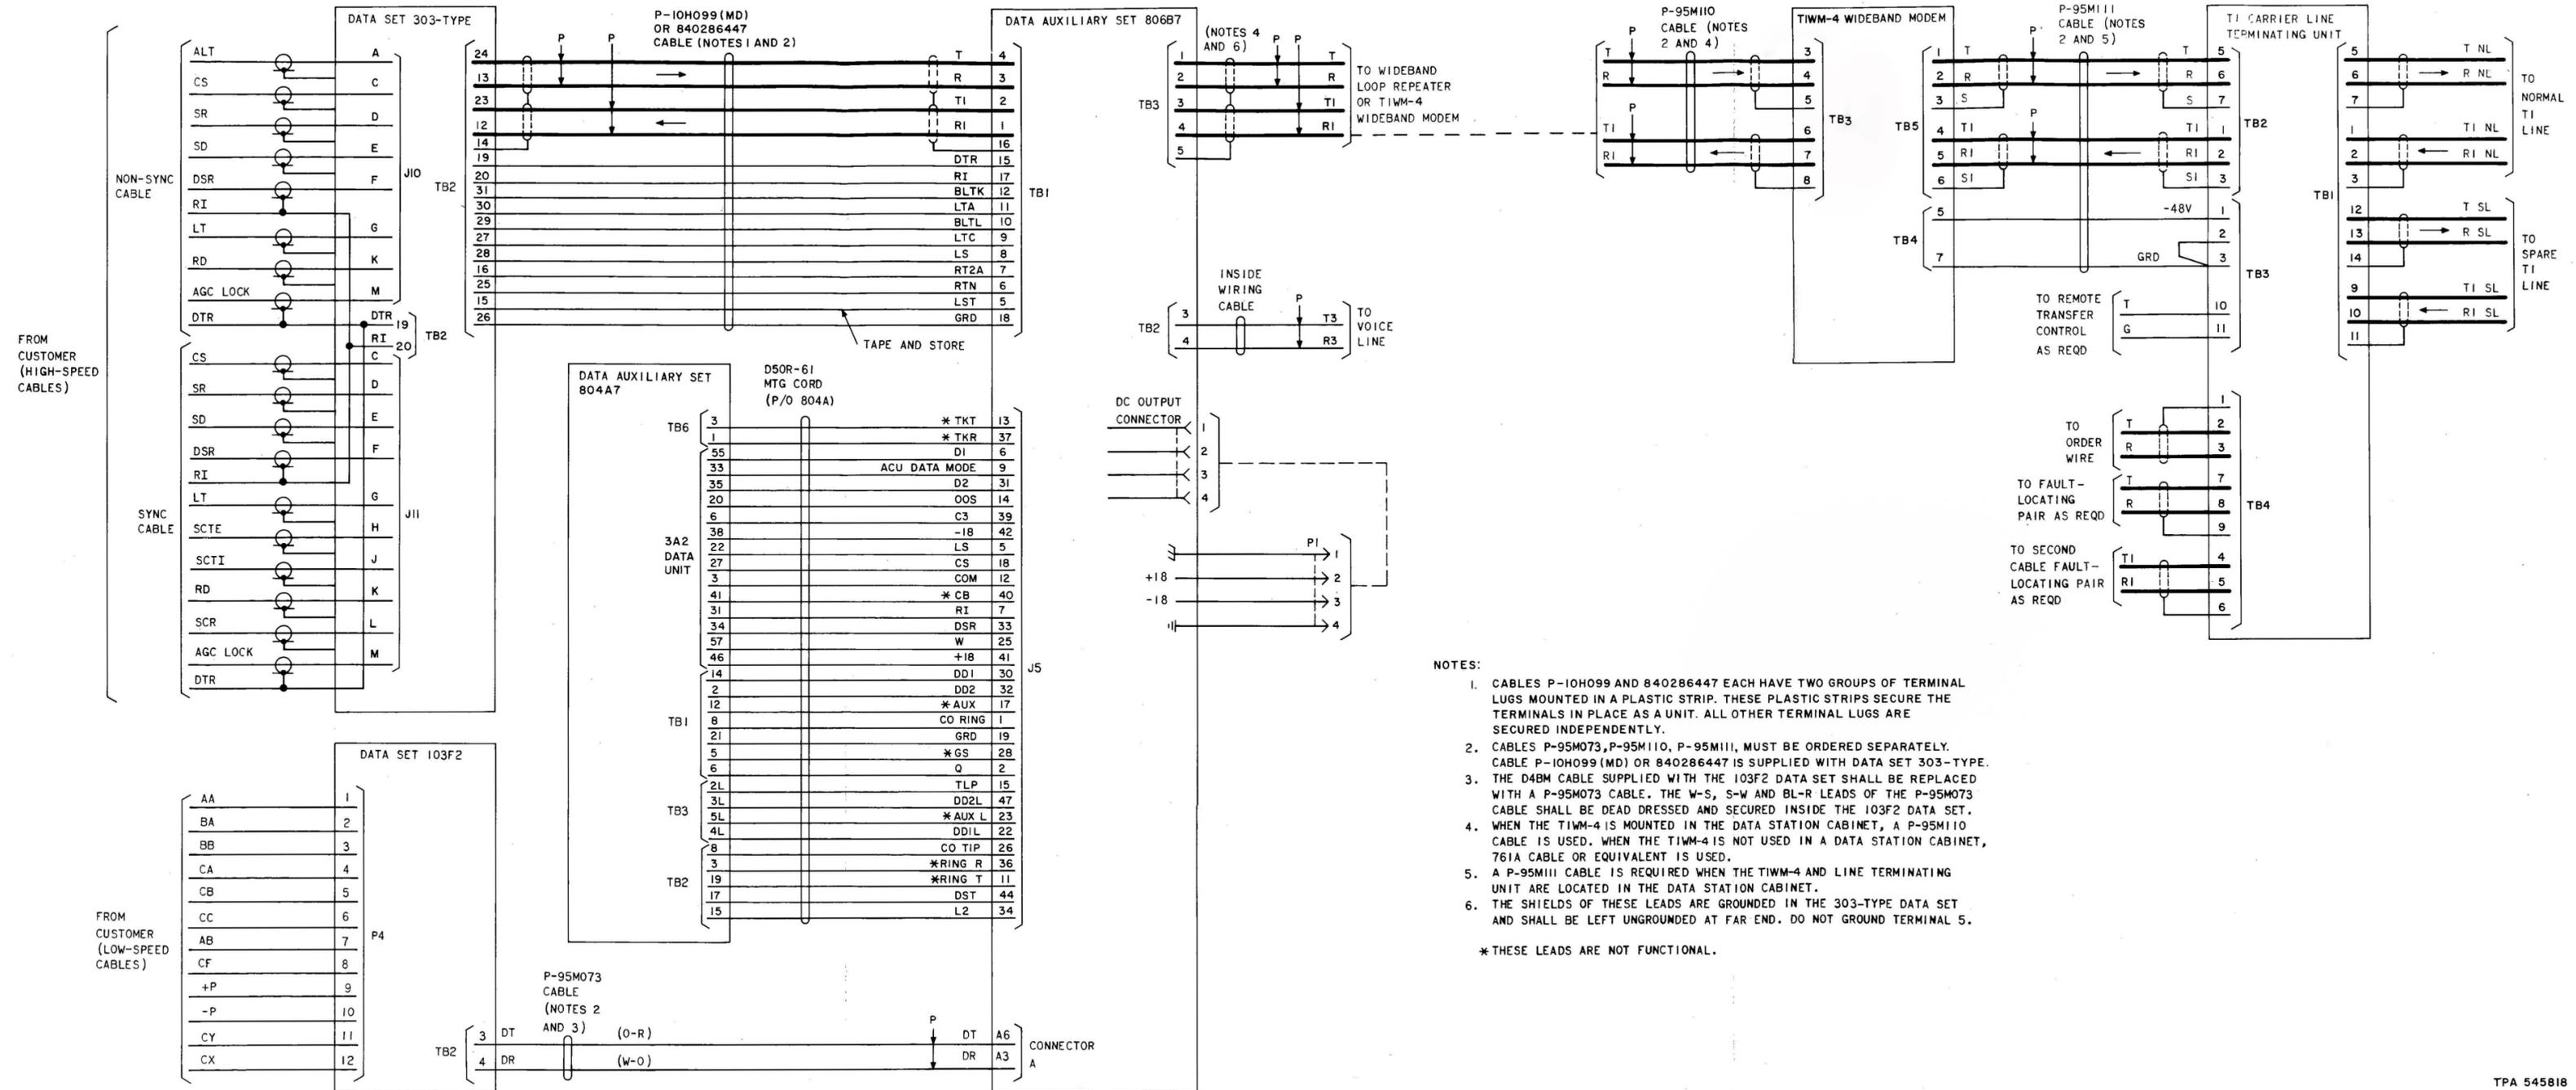
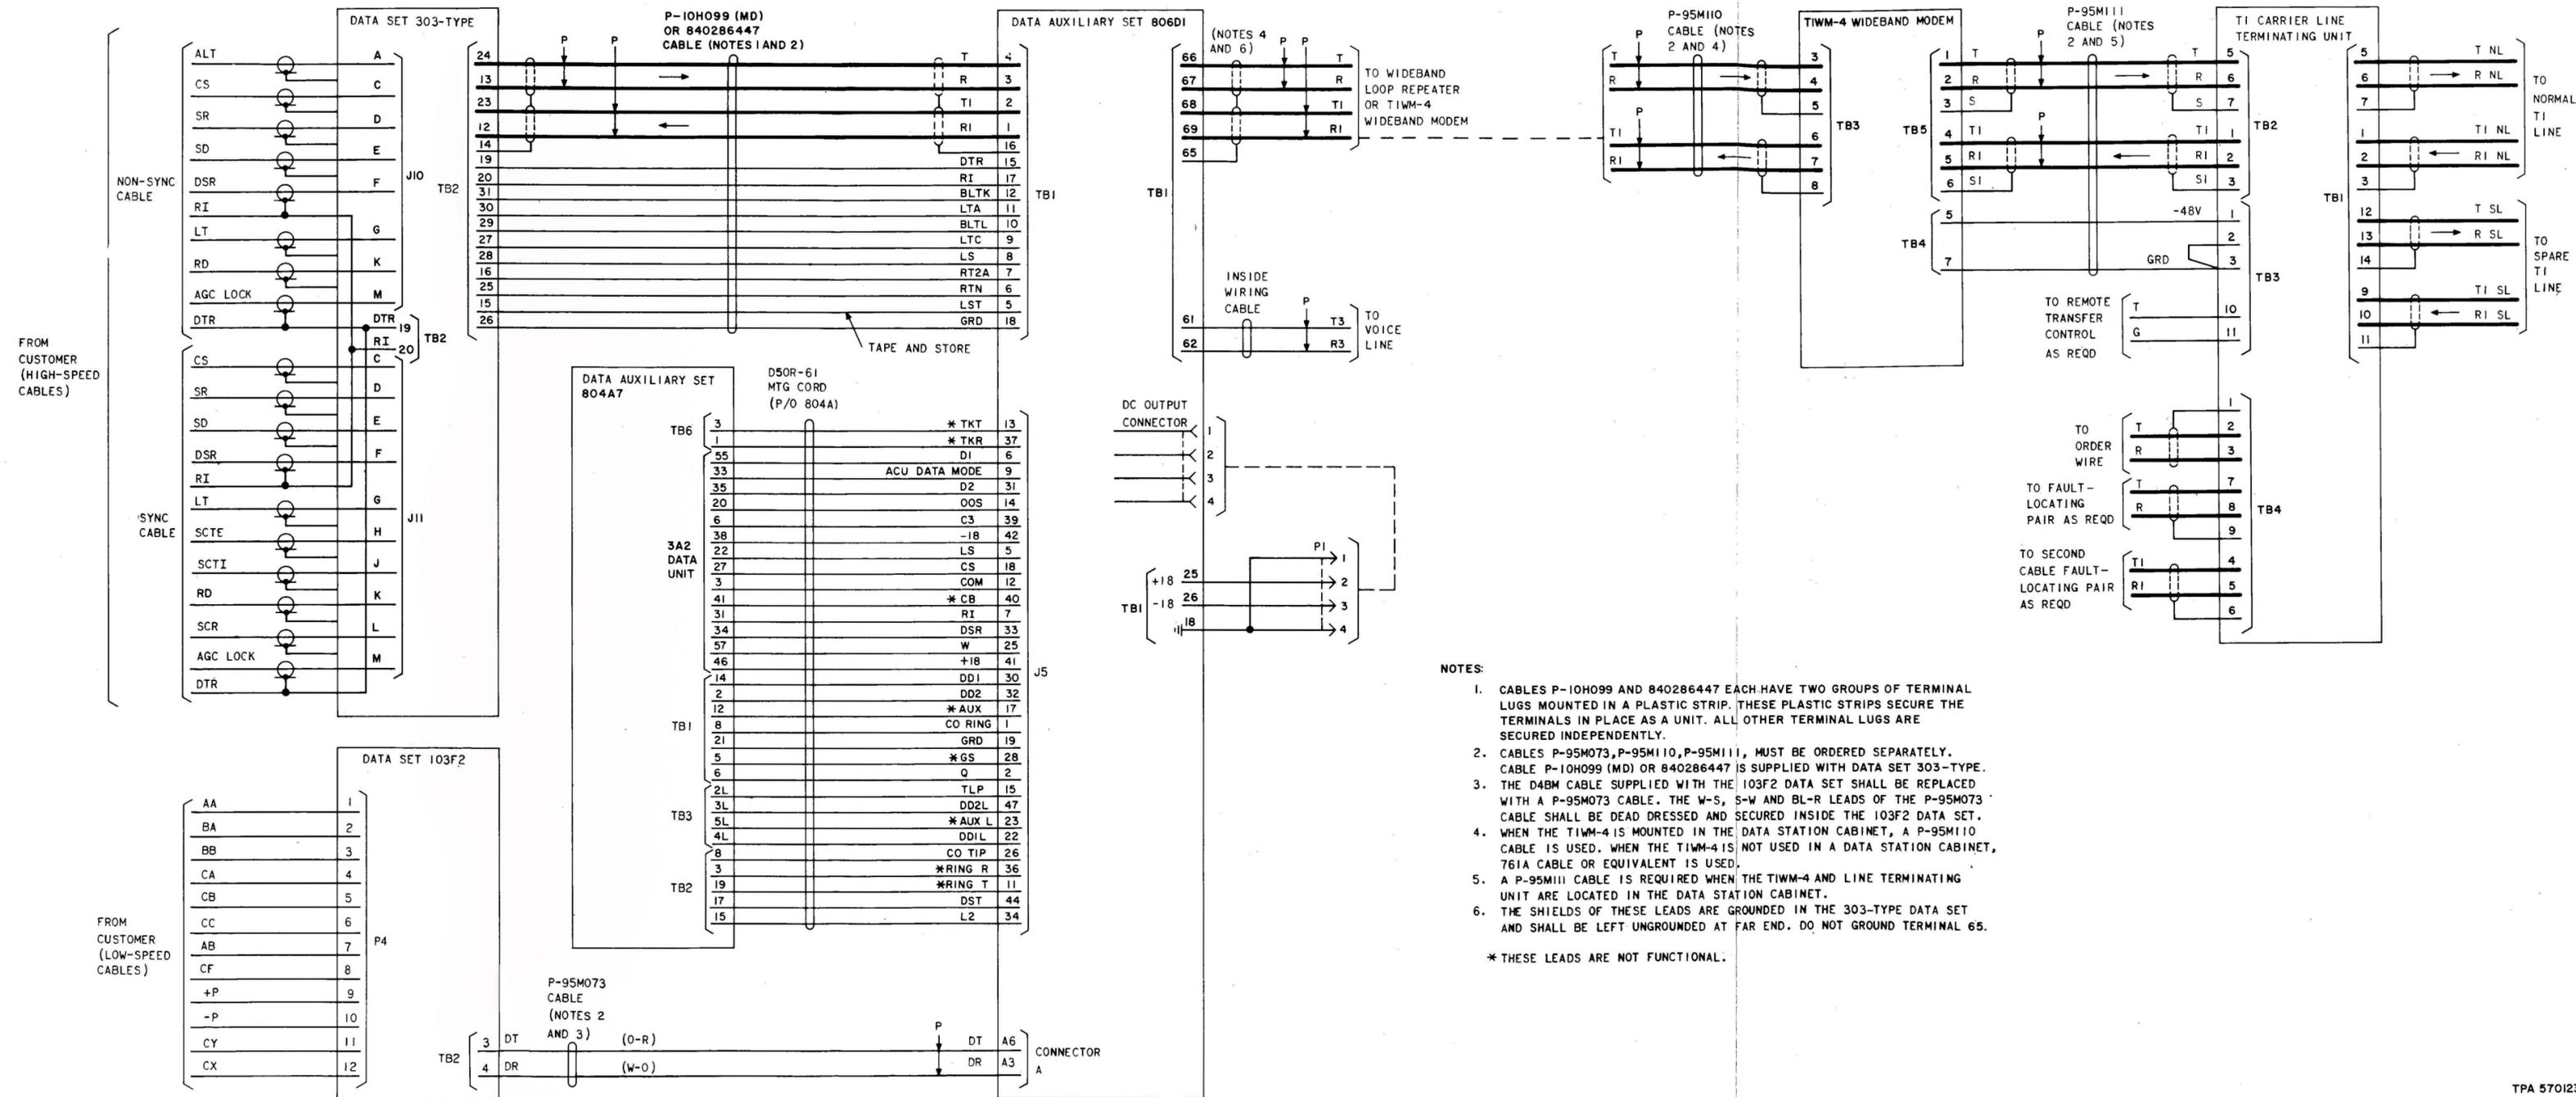

Fig. 6—Connection Diagram—Wideband Data Station Using DAS 806B7
Fig. 7—Connection Diagram—Wideband Data Station Using DAS 806D1
3.07 The following part of this practice will describe the installation of DS 303-type restored polar line signal codes and DS 303-type de-coupled balanced line signal codes, DAS 806B7 or DAS 806D1, and DAS 804A7. In some installations, a T1WM-4 modem and LTU may be required. The installation of this equipment will be covered in later parts of this practice. Figures 2 and 5 show a complete data station. Figure 6 shows a typical block wiring diagram of a complete wideband data station using DAS 806B7. Figure 7 shows a typical block wiring diagram of a complete wideband data station using DAS 806D1.